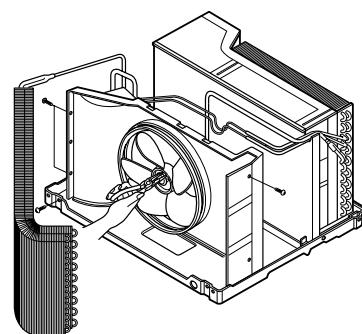

Figure 23
3. Remove the side cover with 2 screws.(See Fig. 23)
7. Remove the fan. (See Fig. 23)